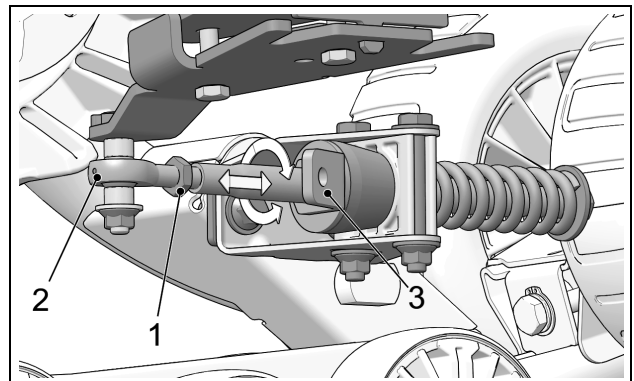

Figure 6
- Loosen jam nut (1). Adjust length of rod end (2) by rotating the steering limiter support plate on (3) the stabilizing arm. Use a 30 mm wrench to rotate support plate to obtain a perfectly centered bubble in the level. Figure 6.
**NOTE:** Stabilizing arms on front Track Systems incorporate a steering limiter support plate (3) that is bent. This plate should be positioned inwards, towards the vehicle.